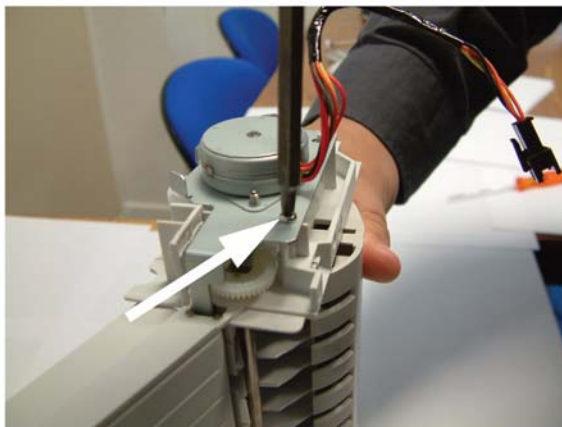

Figure 1
1. Unscrew the mounting screw of the motor frame, Figure 1.